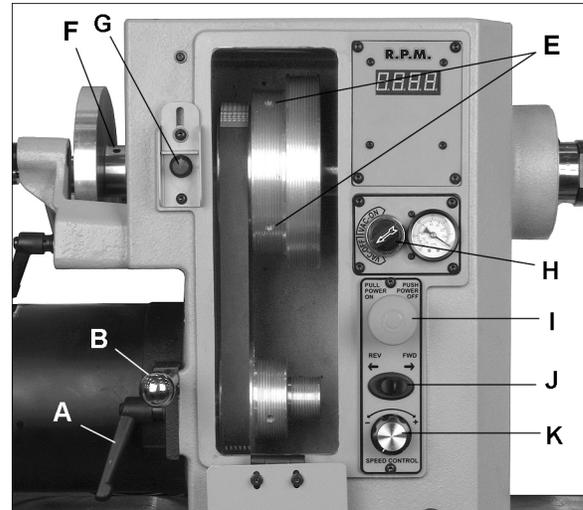

Figure 33
Push spindle lock button (see G, Figure 33) and rotate spindle slightly until button goes entirely into recess. Slide plate down over button.
The motor and spindle sheaves are aligned with each other at the factory, but if any service is performed that affects their alignment it is very important that they be realigned. To realign them, loosen the two set screws on the spindle sheave (E, Figure 33) with a hex key, and slide spindle sheave into proper position. Re-tighten set screws.
See Figure 33.
7. If replacing spindle sheave, loosen two set screws (E, Figure 33), and slide sheave off spindle.
10. Reinstall handwheel and tighten set screws (F, Figure 33).
11. Align new sheave (see section 9.14, "Sheave and Belt Alignment") then tighten two set screws (E, Figure 33) securely on sheave.
See Figures 33 and 34.